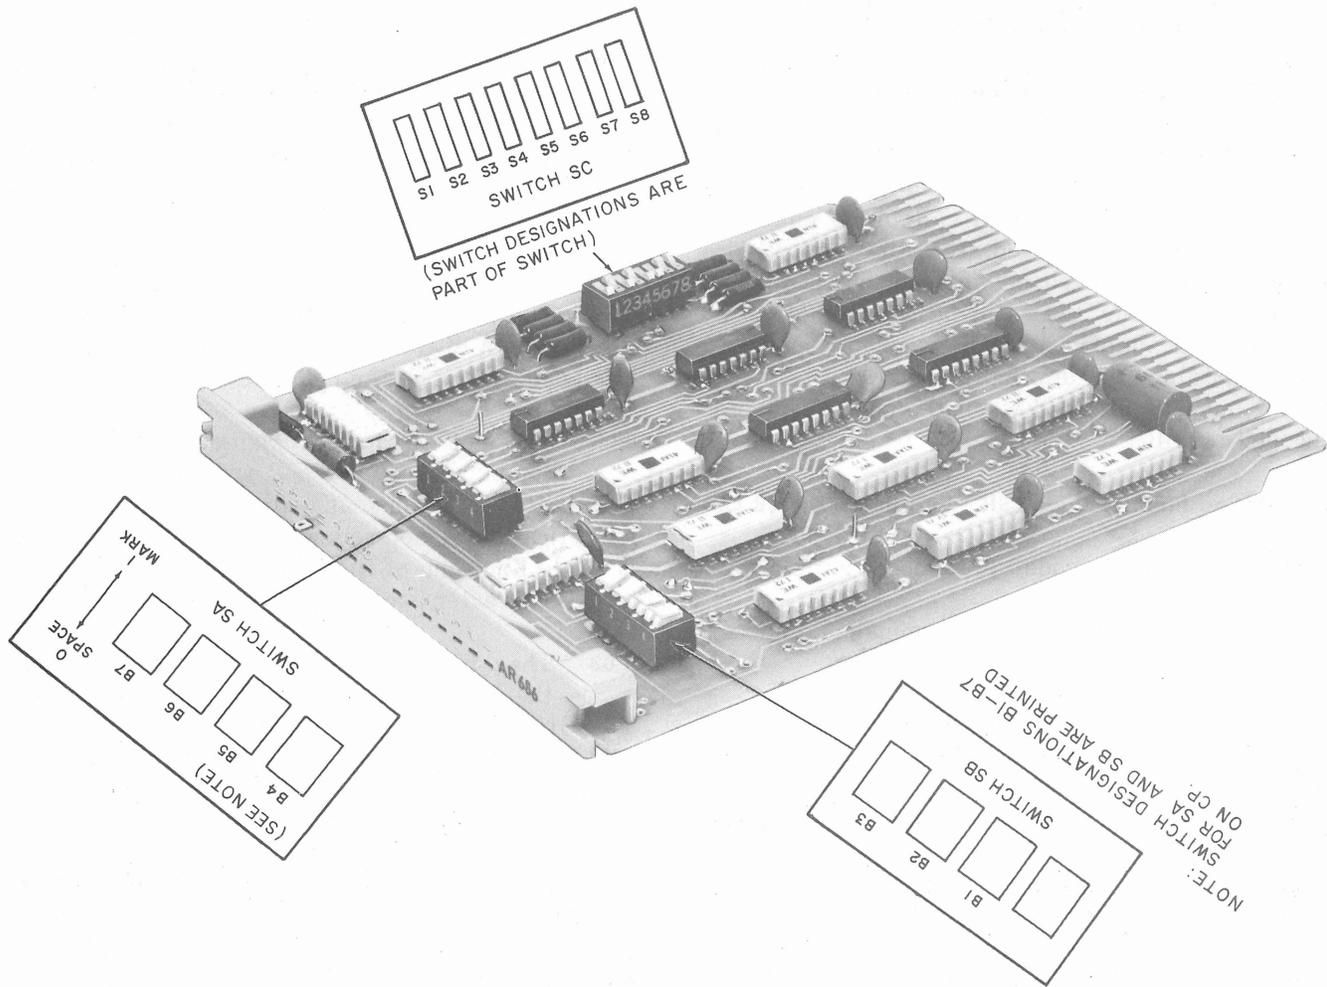

Fig. 8—AR 686 CP Switch Location and Designation
4.01 The AR686 CP (Fig. 8) is discretely encoded with a SCC so the station can recognize that it is being polled by the computer switcher.
- (2) Refer to Fig. 8 for the location of the SA and SB switches. The contact designations and switch setting required to obtain a mark or space are also shown by Fig. 8.
(3) Encode bit 1 by depressing the side of the B1 rocker to give the required mark or space (Fig. 8).
(4) Encode the remaining bits (2 through 7) by setting the switch of the corresponding number to the required mark or space position. Encoding of the eighth bit is not required because the controller circuits will check for even parity.
- (2) Refer to Fig. 8 for the location of the SC switch and the contact designations.